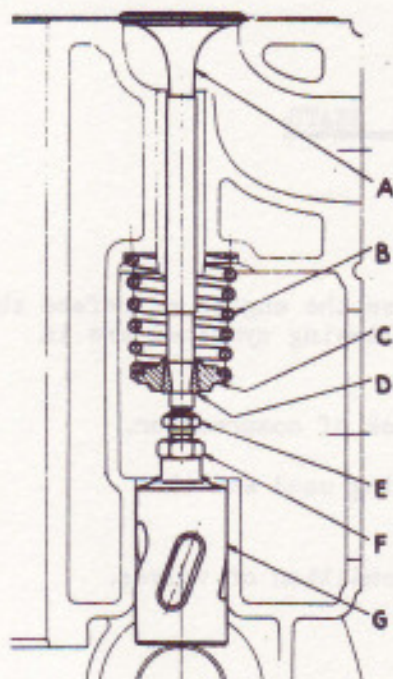
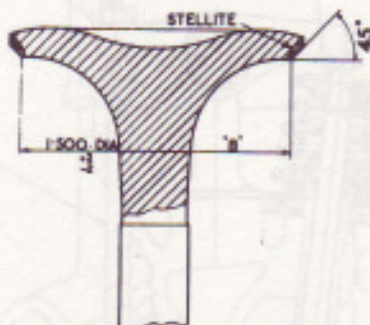

FIG. 12. ARRANGEMENT OF EXHAUST VALVE WITH CAST IRON GUIDE.
FIG. 17. SECTION THROUGH HEAD OF EXHAUST VALVE.
Unscrew sleeve nut of compressing tool sufficiently to allow the fork to be placed under bottom washer (C, Fig. 12) of the valve to be removed.
The exhaust valves have stellite seats, see Fig.17.
When retrimming the seating of the exhaust valve, grind off the material to the correct angle (i.e. 45° as shown in Fig.17) and sufficiently to remove pitting and then remove metal from the underside of the valve as in the case of the inlet valve, in order to maintain dimension 'B' as shown in Fig.17. However, prior to carrying this out, the locking nut (F, Fig.12) of each exhaust valve tappet should be released and the adjusting screw (E), screwed down several turns. To carry out this operation, slip the special exhaust tappet holding spanner (RF.3838 Fig.18) on to the flats provided at the top of the exhaust tappet, and placing the other end of the spanner on to the inlet tappet. Then, with the aid of the two $\frac{1}{2}$ " and $\frac{5}{16}$ " B.S.F. single ended spanners (RF.3834 and RF.4372), the locking nut can be released and the adjusting screw screwed down.